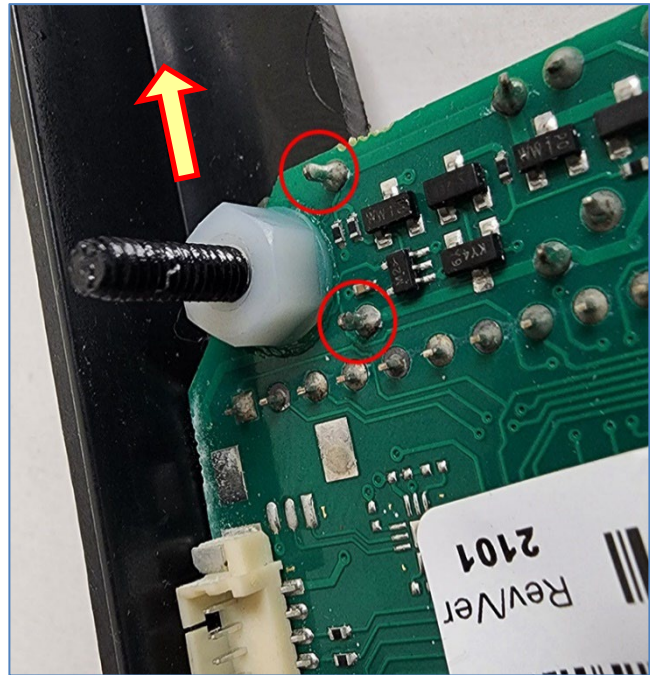

Figure 6. Location of soldering connections (red circles).
2. To the right of the flange nut are two (2) posts that you will solder the SMART START Module power supply to (Figure 6).